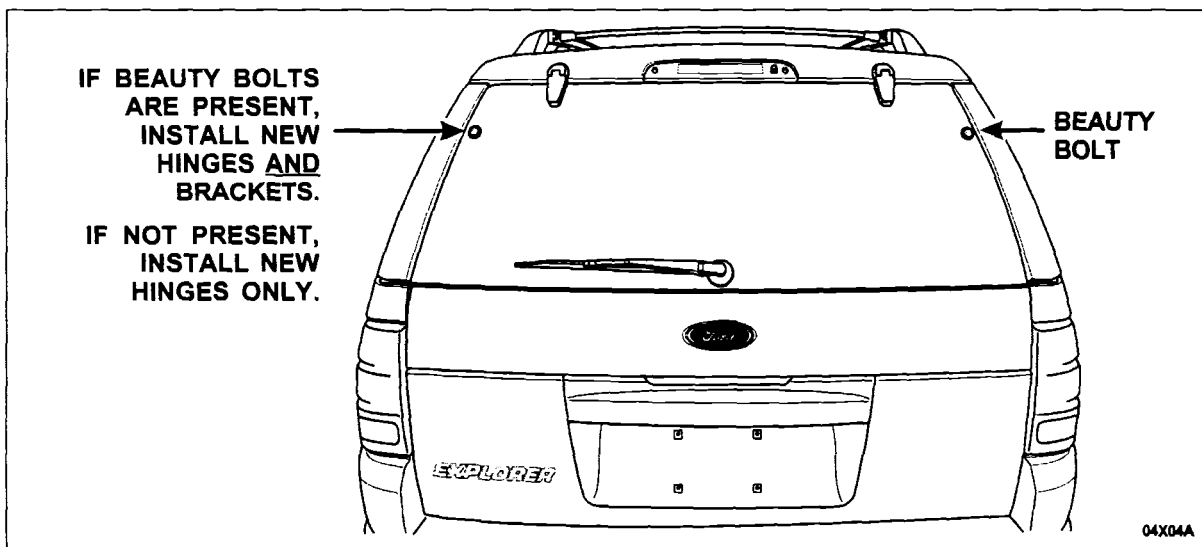

FIGURE 1
- Early 2002 models use ball stud brackets that are secured with beauty bolts, which pass through the glass (the head of the bolt is visible on the outside of the glass) and are bonded to the glass about 150 mm (6 inches) from the top of the glass. See Figure 1. If beauty bolts are present, both the liftgate ball stud brackets and hinges will be replaced. Perform BOTH the Liftgate Glass Hinge Replacement and the Ball Stud Bracket Replacement. Begin your repairs with LIFTGATE GLASS HINGE REPLACEMENT.